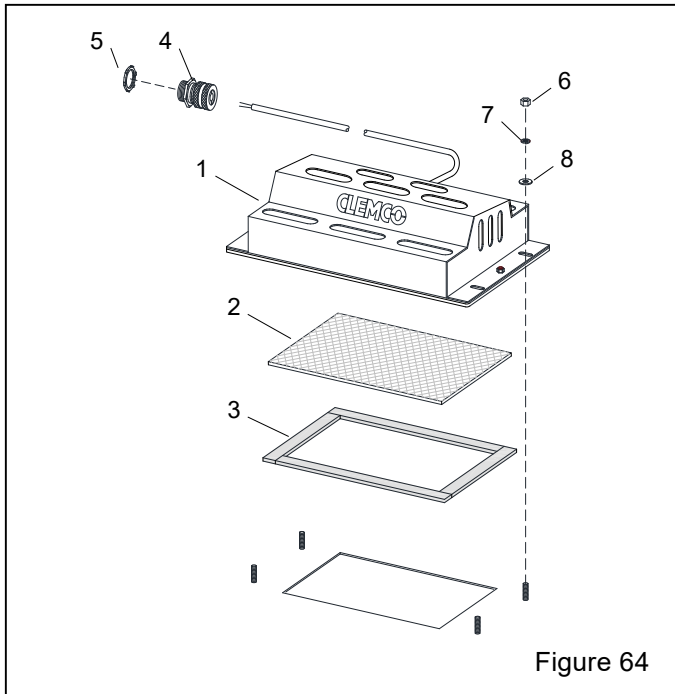

Figure 64
10.7 LED Light Assembly – Figure 64